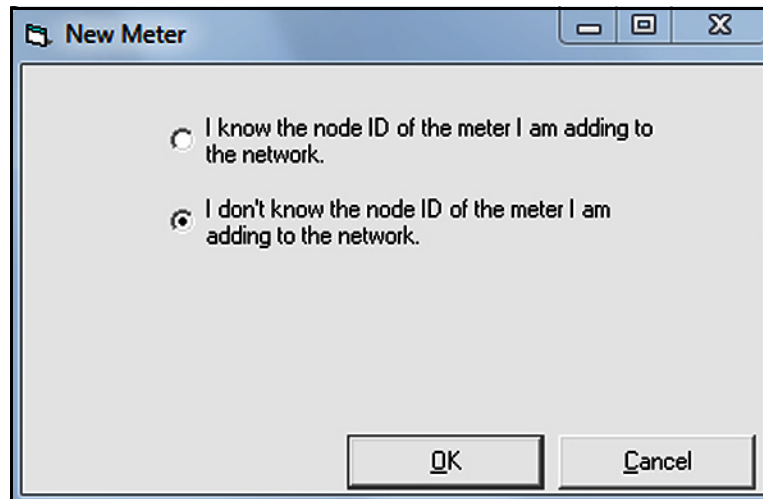

Figure 39: The Node ID Dialog Box
7. After selecting the "New" and "Meter" options, the dialog box shown in Figure 39 below opens. Select the "I don't know the node ID of the meter I am adding to the network" radio button and then click [OK] button.
- a. At the Node ID dialog box (see *Figure 39 on page 35*), select the *"I know the node ID of the meter I am adding to the network"* option and Click [OK] button.